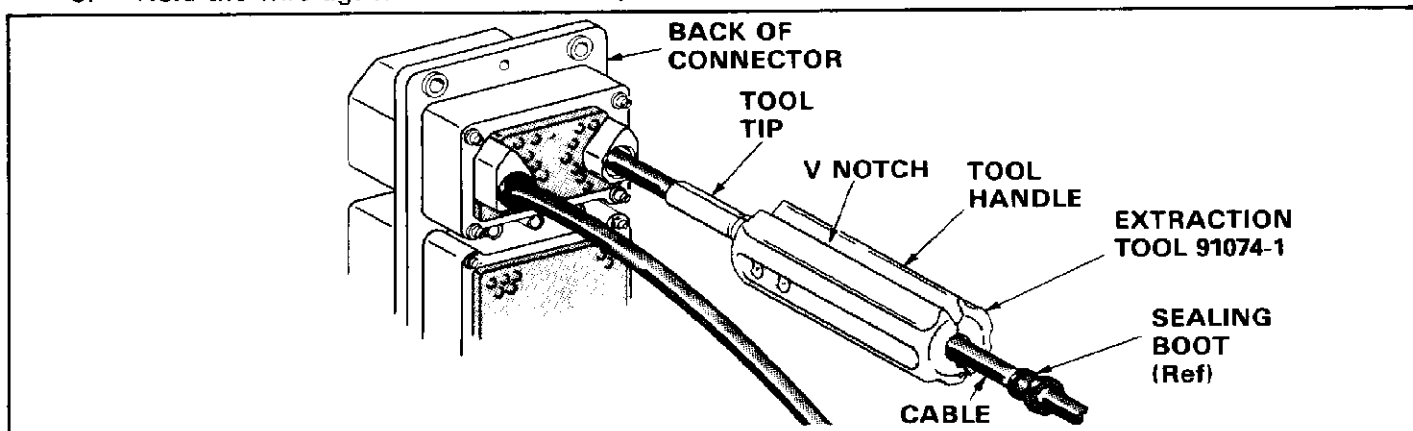

Fig. 11
C. Extracting Size 5 and 9 Contacts (Figure 11)